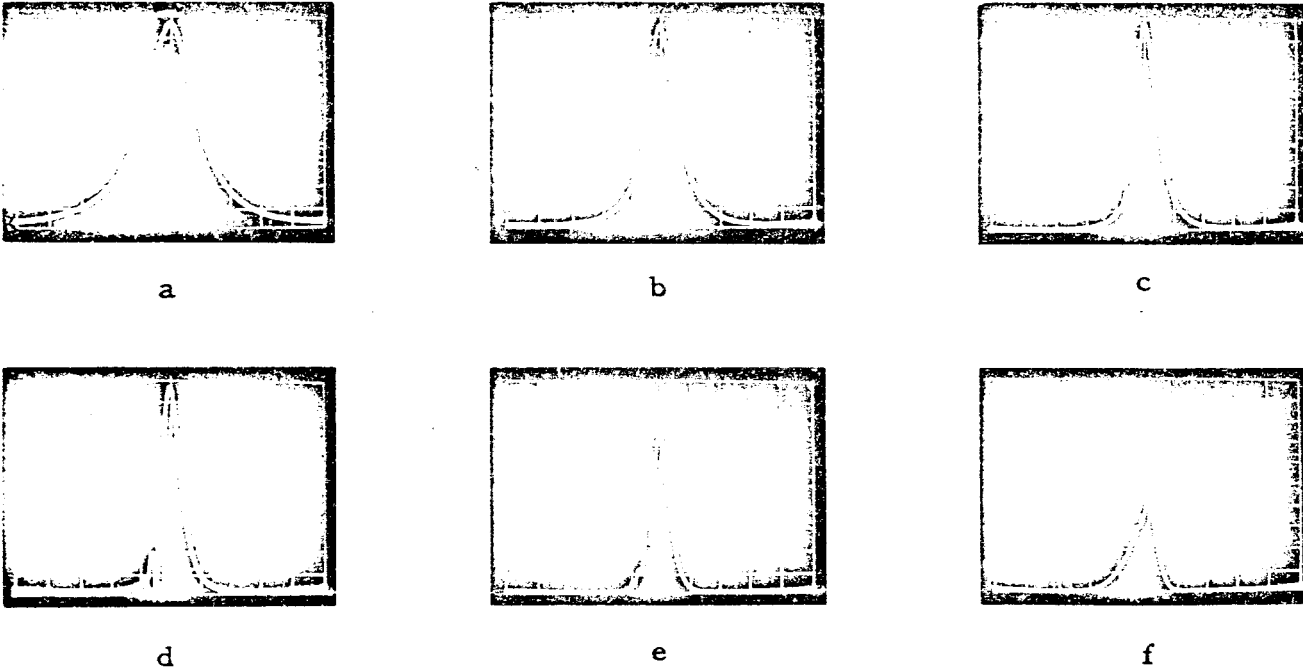

Figure III-5. Ringing as an Indication of Optimum Resolution.
4. Turn the RESOLUTION control counterclockwise until individual signals are most clearly resolved. If the signal is not resolved, a slower sweep rate must be used. Best resolution can be recognized by the nature of the ringing pulses which will appear on the trailing edge of the signal pip as the best possible resolution is approached. See Figure III-5 and Subparagraph 5 below. Ringing can be seen more easily with the VIDEO FILTER control in the OUT position.